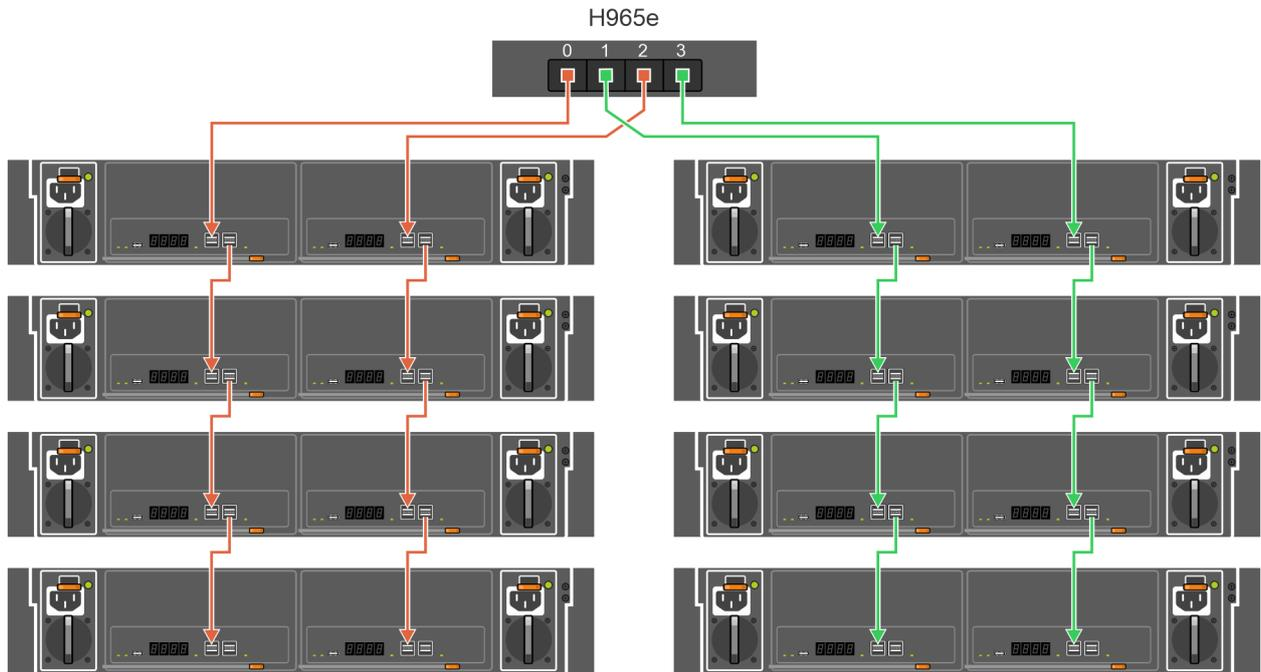

Figure 7. PERC H965e adapter card ports—Eight enclosures with multipath configuration for the MD2412 and MD2424 series enclosures
- To connect multiple enclosures, connect a set of ports on the controller to the first enclosure as mentioned in the above bullet point. Connect cables from the first enclosure to the second enclosure. Then, continue to connect 2 cables from the last enclosure in the chain to the next enclosure you want to include until you have up to 4 enclosures, or 8 enclosures with 4 enclosures per stack. See Figure 6 and Figure 7.